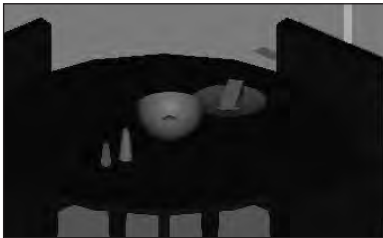

Figure 25-4: An initial rendering using default options and a crop window
5. At the **Pick crop window to render:** prompt, pick a window similar to that shown in Figure 25-4. Wait until AutoCAD renders the drawing.
6. Save your drawing. It should look like Figure 25-4. As you can see, the rendering is too dark and the objects need realistic materials.